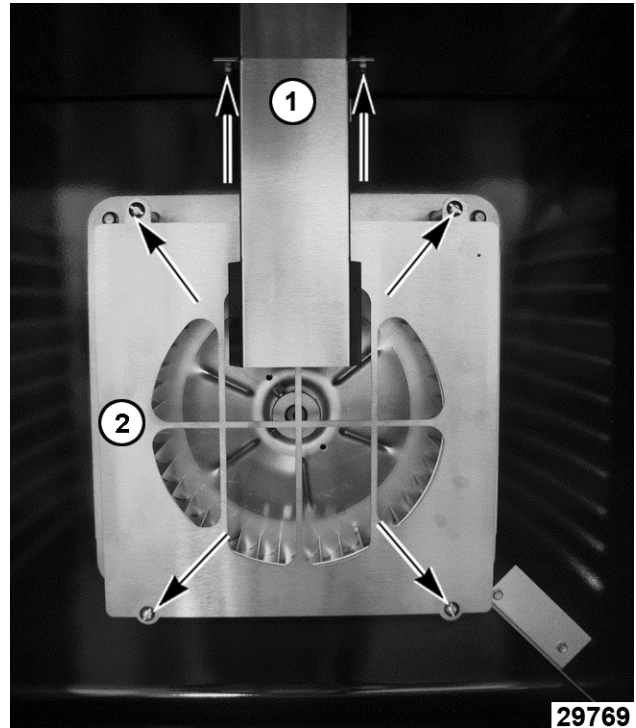

Fig. 21
- Remove snorkel (1, Fig. 21) and baffle panel (2, Fig. 21) mounting screws.
4. Install snorkel (1, Fig. 21) and baffle panel (2, Fig. 21).